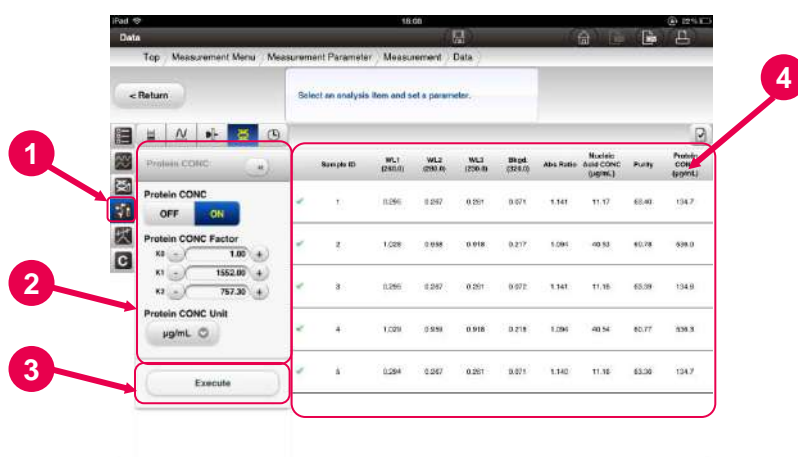

Fig. 5-41 Protein Concentration Conditions Setting Parameters Window
- (1) To change the protein concentration conditions, press the [Protein Concentration Conditions Tool Icon] button .
- (2) The setting parameters for the protein concentration conditions (Fig. 5-41) are displayed. See 4.2.3 “Measuring Nucleic Acid Specimens” for the statistical calculation setting parameters.
- (3) Set up the items and press the [Execute] button.
- (4) The results of the data processing are displayed.